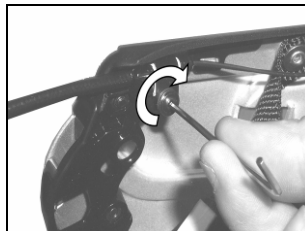
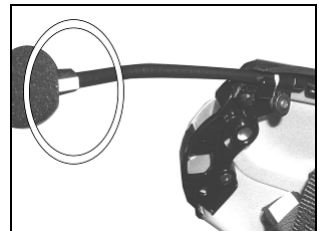

Fig. 42
Fig. 43
- Position the microphone on the left side of the helmet, screwing in the screw in the small shell frame (Fig. 42), being careful that the side of the microphone support with the letter "n" is facing towards the inside of the helmet (Fig. 43).